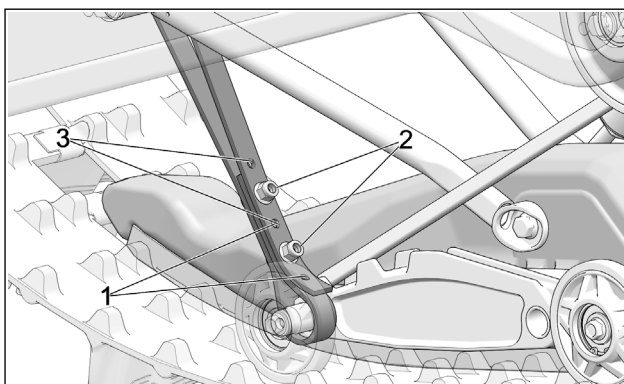

Figure 15
- The Limiter Strap has 3 adjustment positions: Figure 15.